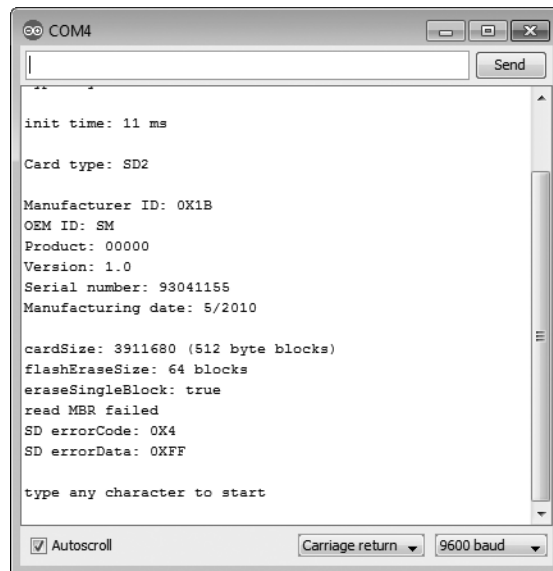

Figure 8-24: Successful microSD card test results
3. Open the Serial Monitor window, set it to 9,600 baud, press any key on the keyboard, and then press ENTER. After a moment, you should see some data about the microSD card, as shown in Figure 8-24.